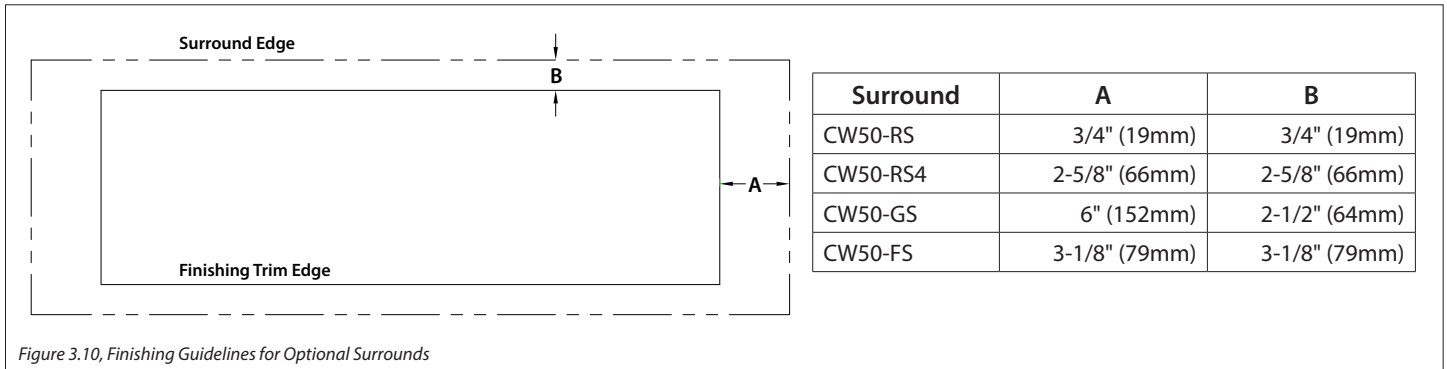

Figure 3.10, Finishing Guidelines for Optional Surrounds
- Figure 3.10 shows where to end finishing materials, when measuring from the finishing edge, to allow installation of any optional surround. Most finishing material will not fit behind the optional surround(s) when it is installed.